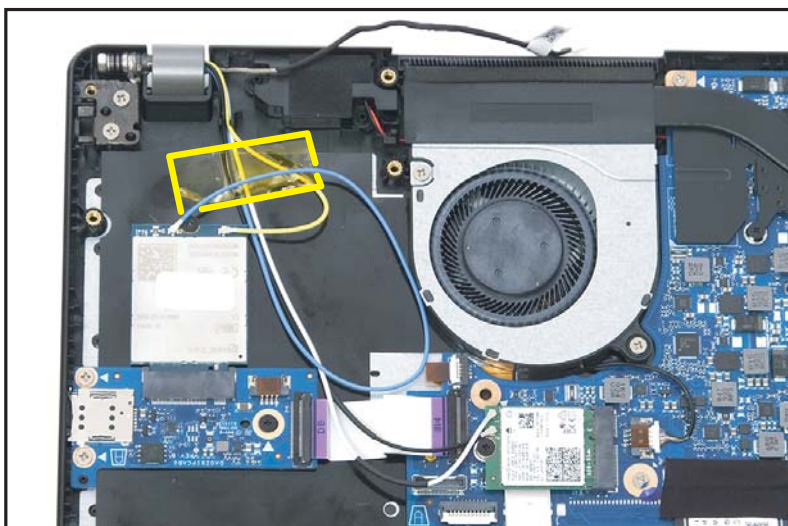

Figure 1-32. LCD Module Removal
3. Detach the adhesive tape from the antennas cables (Figure 1-32).